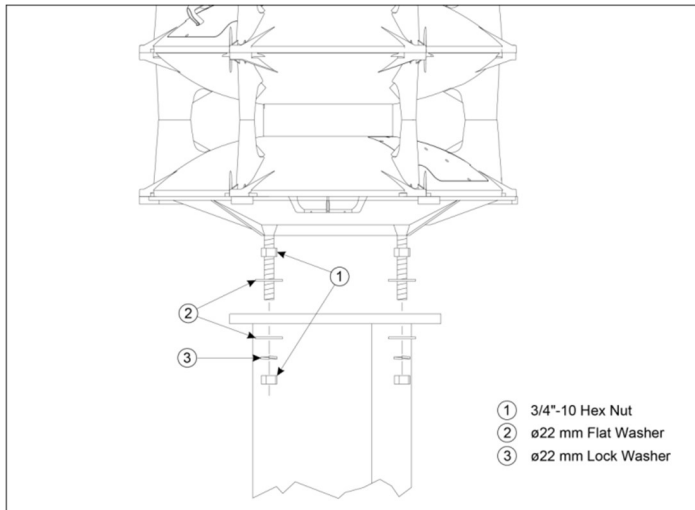
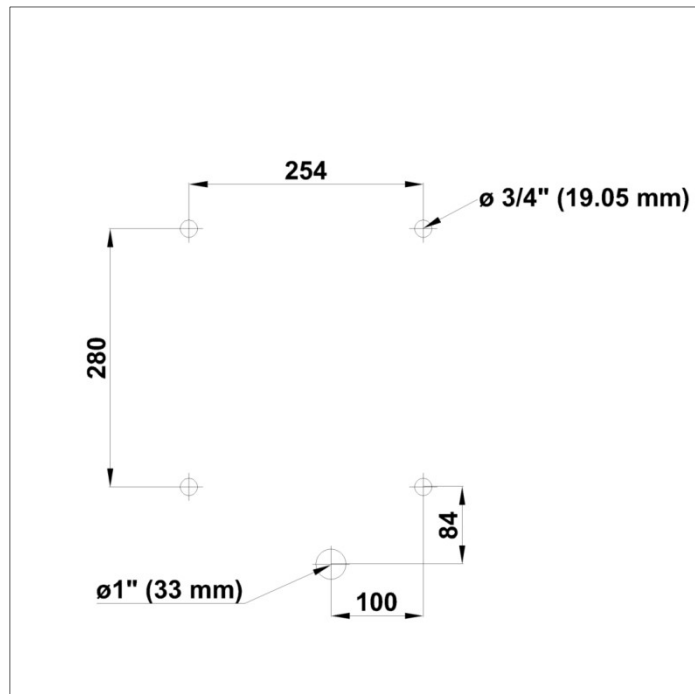

Figure 1 - Mounting of siren speaker cluster
Figure 2 - Dimensions mounting bolts siren speaker cluster base plate
2. Locate the 4 mounting studs on the bottom of the speaker assembly (see Fig. 1). Please be aware that studs are placed in an uneven pattern (see Fig. 2).